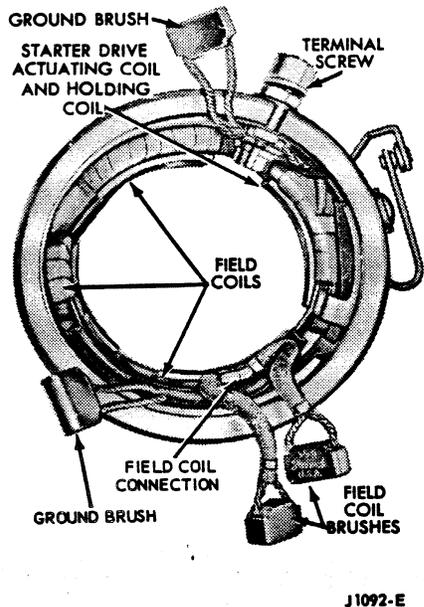

FIG. 12 Coil Assembly
1. Install the starter terminal, insulator, washers, and retaining nut in the frame (Figure 12). Be sure to position the slot in the screw perpendicular to the frame end surface.
6. Position the new insulated field brushes lead on the field coil terminal. Install the clip provided with the brushes to hold the brush lead to the terminal. Solder the lead, clip, and terminal together, using rosin core solder (Figure 12). Use a 300-watt iron.
8. Position the ground brushes to the starter frame and install the retaining screws (Figure 12).
10. Position the new insulated field brushes lead on the field coil connection. Position and crimp the clip provided with the brushes to hold the brush lead to the connection. Solder the lead, clip, and connection together, using rosin core solder (Figure 12). Use a 300-watt iron.